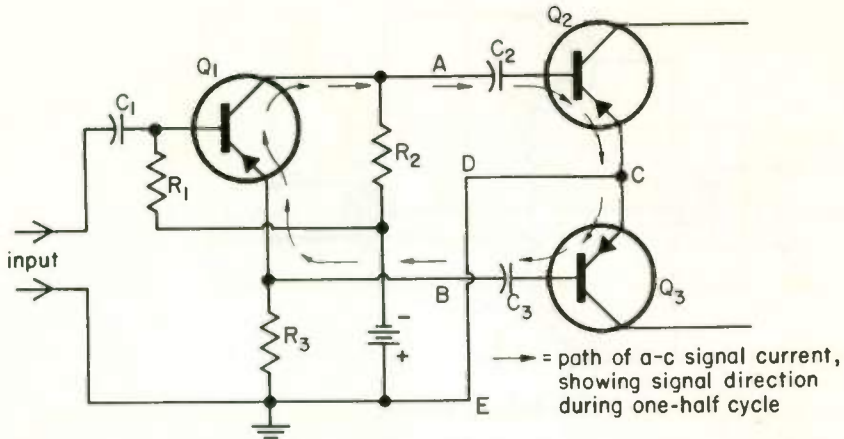

Fig. 26
3. The circuit of Fig. 26 uses phase-inverter stage, Q_1 , in place of a transformer to feed a power amplifier stage. The purpose of the phase inverter is (a) (*to feed the signal to Q_2 , 180° out of phase from the signal to Q_3*) (*to reverse the phase so that inverse feedback is obtained*). The principal signal current path between the output of the inverter and the input of the push-pull stage is shown by arrows. The arrows point in the direction of signal current flow during one-half of each cycle. The direction is, of course, opposite during the other half cycle. The signal current at point A (b) (*is*) (*is not*) in phase with the signal current at point B. The signal current at the base of Q_2 is out of phase from the base current of Q_3 because (c) _____
The push-pull stage of Fig. 26 is evidently operating (d) (*class A*) (*class B*).
4. Study the circuit of Fig. 26 and see if you can determine why resistor R_3 is necessary.